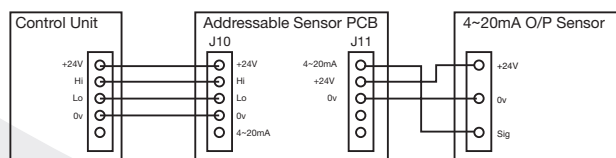

Fig.2
2. Connect external 4~20mA source to the 4~20mA input terminal (J11) on the right hand side of the board as shown in Fig. 2
3. Connect terminal J10 as shown in Fig.2